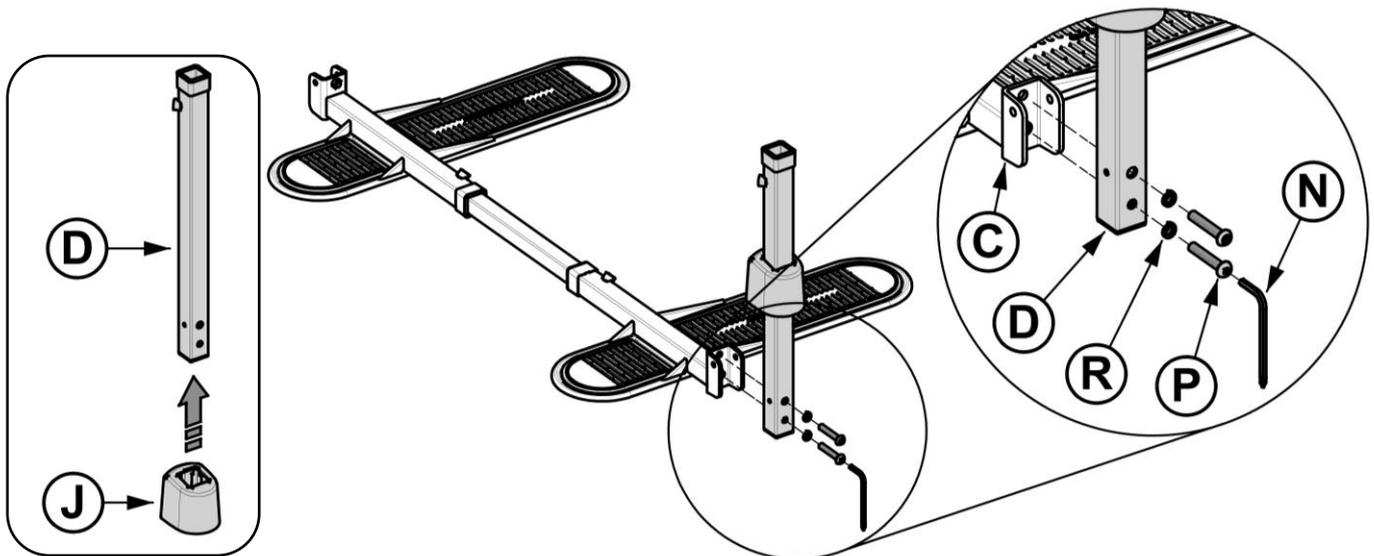

FIGURE 5
5. Slide Plastic Cover **J** over Upright **D**, and hold **J** up during screw install. Align holes in External Upright **D** with holes in Base **C** as shown in *FIGURE 5*. Insert Screws **P** (2x) through Washers **R** (2x) and Upright **D**, thread into Base **C**, and secure with Tool **N**.